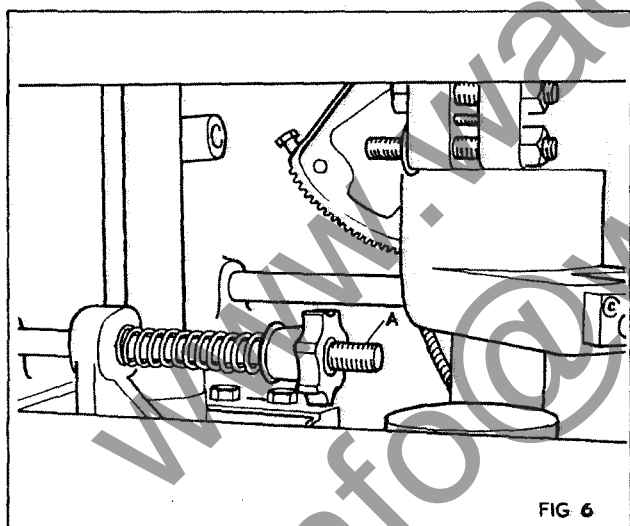

FIG 6
3. Remove the tension on the belt by unscrewing the handwheel "A" in fig. 6.